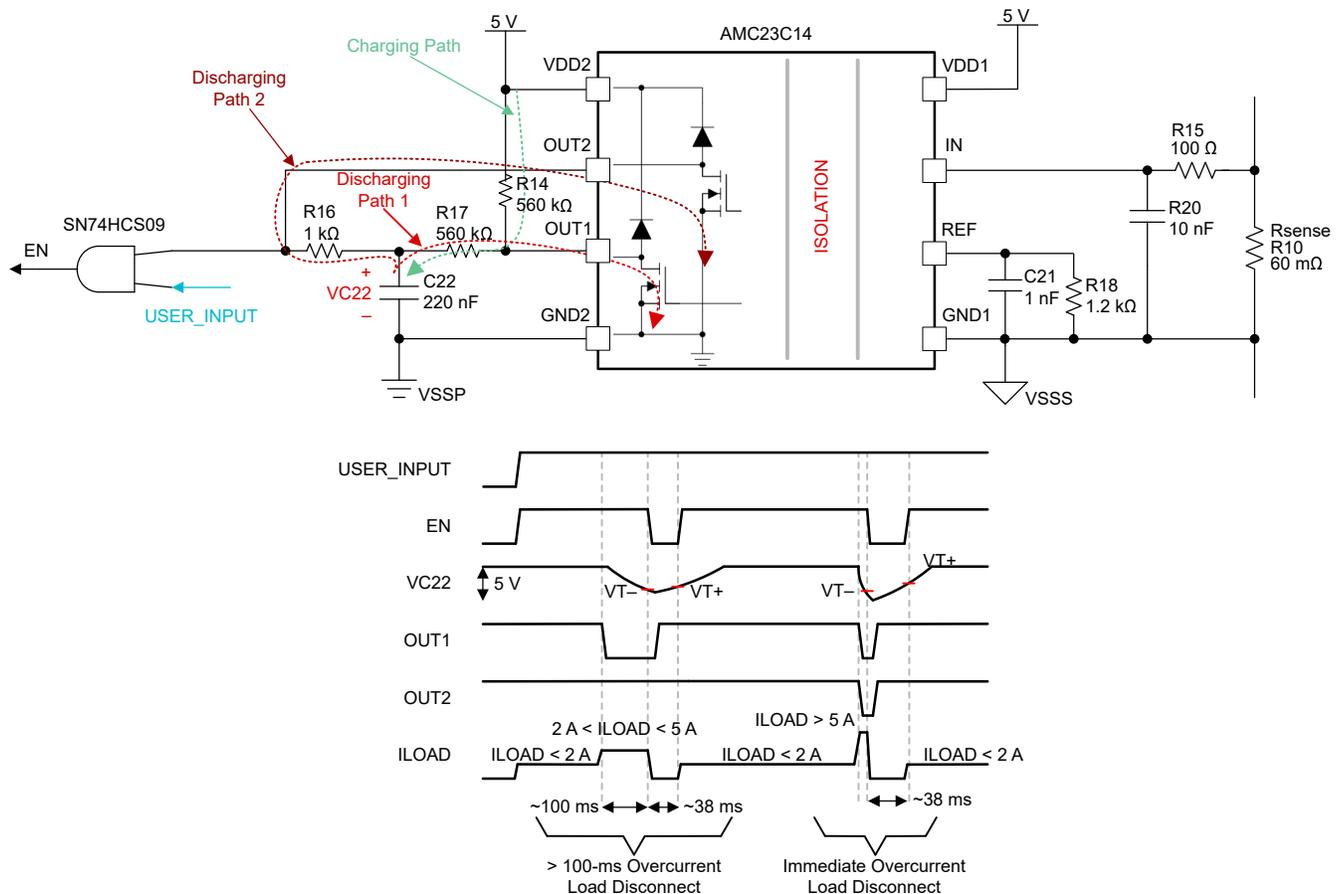

Figure 2-4. Overcurrent Protection
Figure 2-4 shows a detailed analysis of the charging and discharging paths. When the current load (ILOAD) through R10 is higher than 5 A, a voltage drop of 300 mV is created in R10. OUT2 is pulled to ground when the voltage drop is greater than 300 mV. When OUT2 is Low-Z, the input of the AND gate (SN74HCS09) is immediately pulled to ground, the output of the AND gate (EN) is asserted low and the load is disconnected. Discharge Path 2 in Figure 2-4 shows how C22 is discharged when OUT2 is pulled low. R16 is placed to limit the inrush current from C22 through OUT2. Since OUT1 and OUT2 are pulled low, C22 discharges below the negative switching threshold (V_{T-}) of the AND gate in 180- μ s as the following equation shows. Note that the following equation only accounts for Discharging Path 2 for simplicity.
Discharging Path 1 in Figure 2-4 shows that when the system is operating under normal conditions (current load less than 2 A), OUT1 is High-Z and C22 is charged to 5 V (VDD2). When the current is greater than 2 A, OUT1 is Low-Z and C22 begins to discharge through R17. The time to discharge C22 should be at least 100 ms before reaching the maximum switching threshold for SN74HCS09 of 2.2 V as shown in Equation 9.